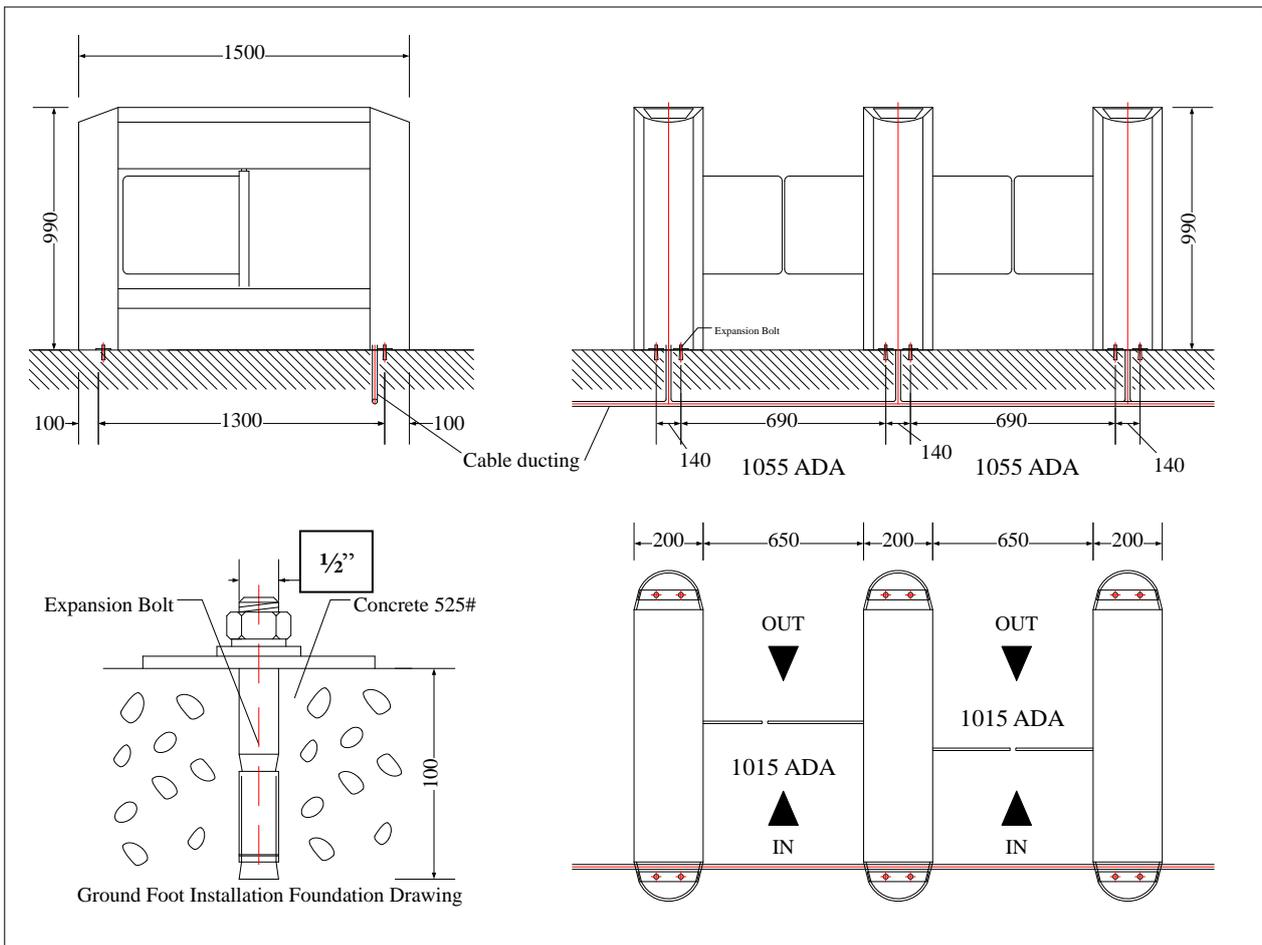

Figure 7
- 3) Drill the holes after determining the hole positions and bury before hand (N+1)X 4 pieces of M12 ground bolts or inflated screw bolts (as shown in Figure 7, N indicating number of passage);